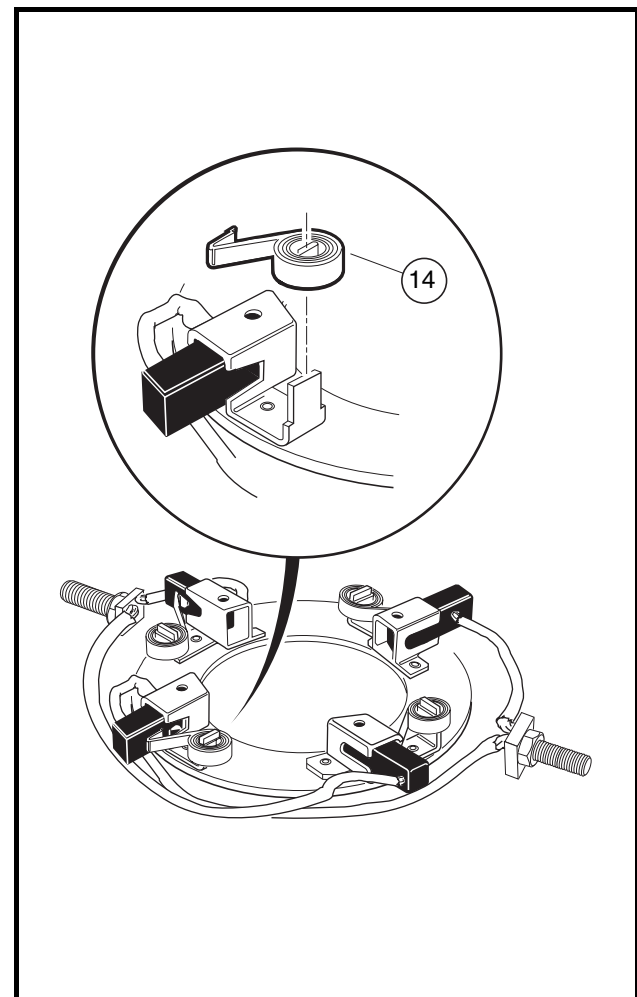

Figure 26-5 Brush Spring Removal
8. To remove brush springs (14) from the rigging, lift the spring extensions out and over the brush mounts and then slide the springs off their mounting tabs (**Figure 26-5, Page 26-4**).
- 2.2. One at a time, push brush spring extensions back from brushes and slide the brushes back until they are completely retracted into their mounting slots. Then position the brush springs against the sides of the brushes so that spring pressure will hold them in the retracted position (**Figure 26-5, Page 26-4**).